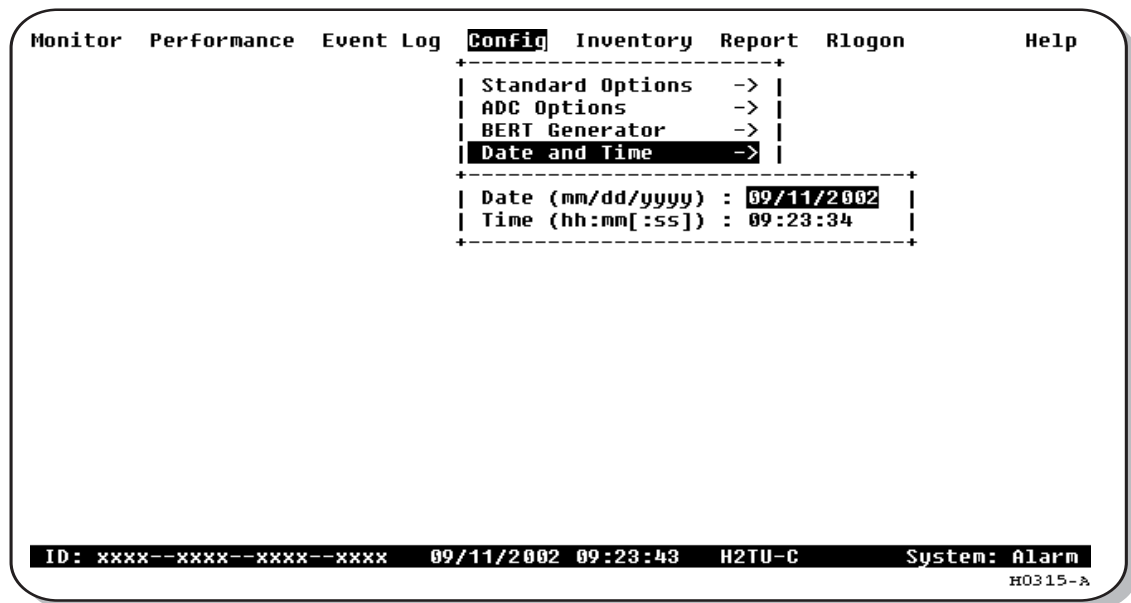

Figure 4. Config Menu - Date and Time
- 3 Type the date in the format indicated (see Figure 4), then press **ENTER**.